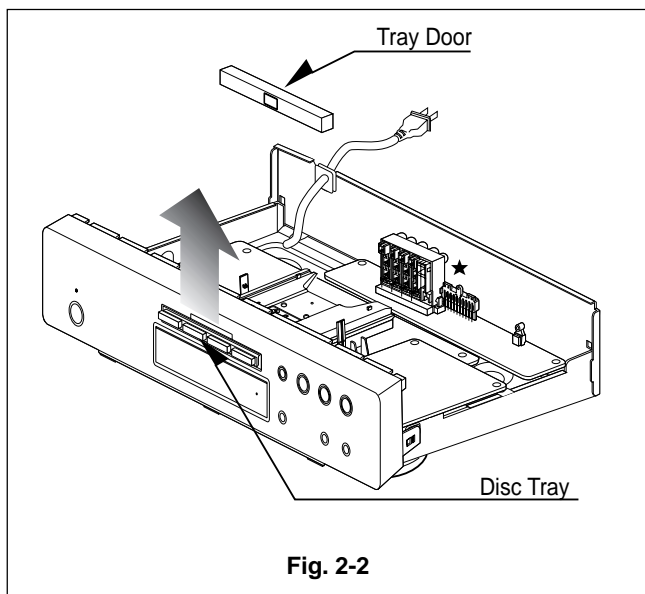

Fig. 2-2
1. Eject the disc tray. (See Fig. 2-2)
2. Remove the tray door. (See Fig. 2-2)